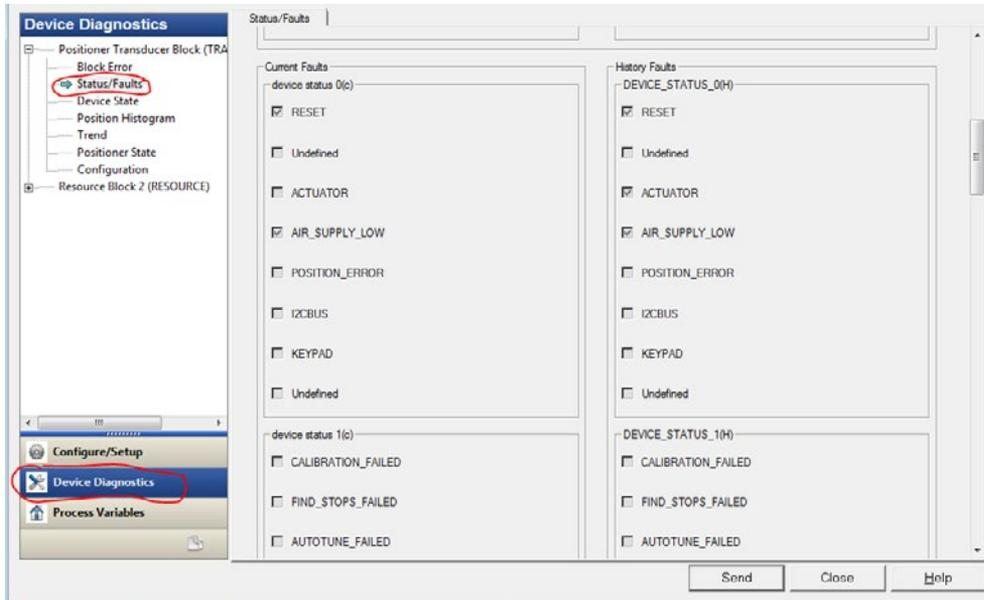

Figure 40 - AMS Status/Faults
1. Inspect the (current) faults/status flags (Figure 40).
- i.) Scrolling down and pressing the button at the bottom of Figure 40.